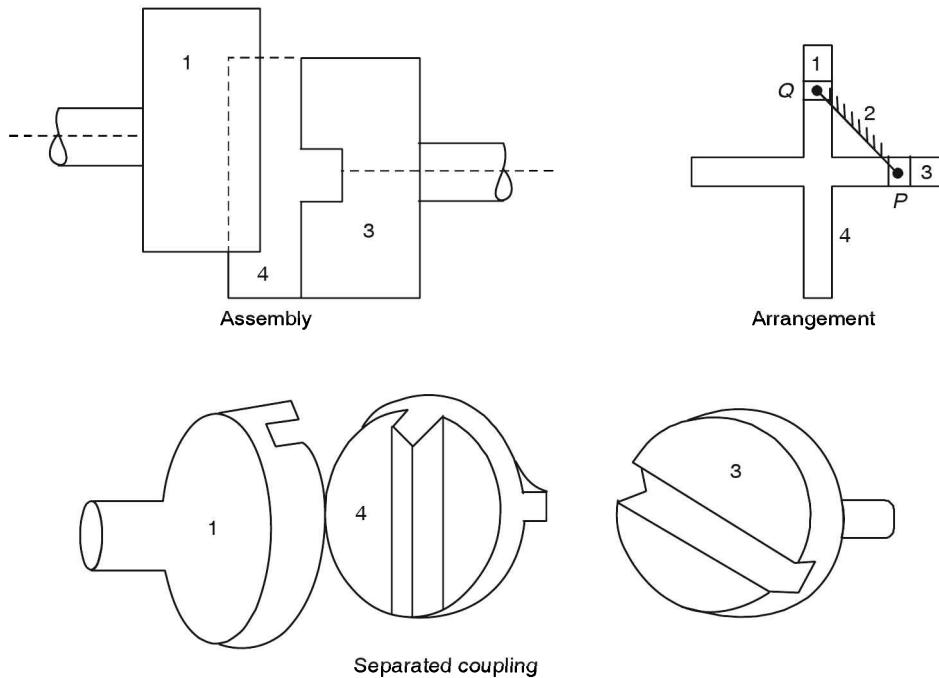

FIGURE 7.28 Oldham's coupling.
- (c) *Oldham's coupling:* It is an inversion of a double-slider crank chain. It is used to connect two parallel shafts in which the distance between two axes is small and this distance can vary as shown in Figure 7.28. The mechanism is obtained by fixing the link PQ . Each of the slider blocks P and Q may rotate about the pins P and Q . If one block is turned through any angle, the frame and the other block